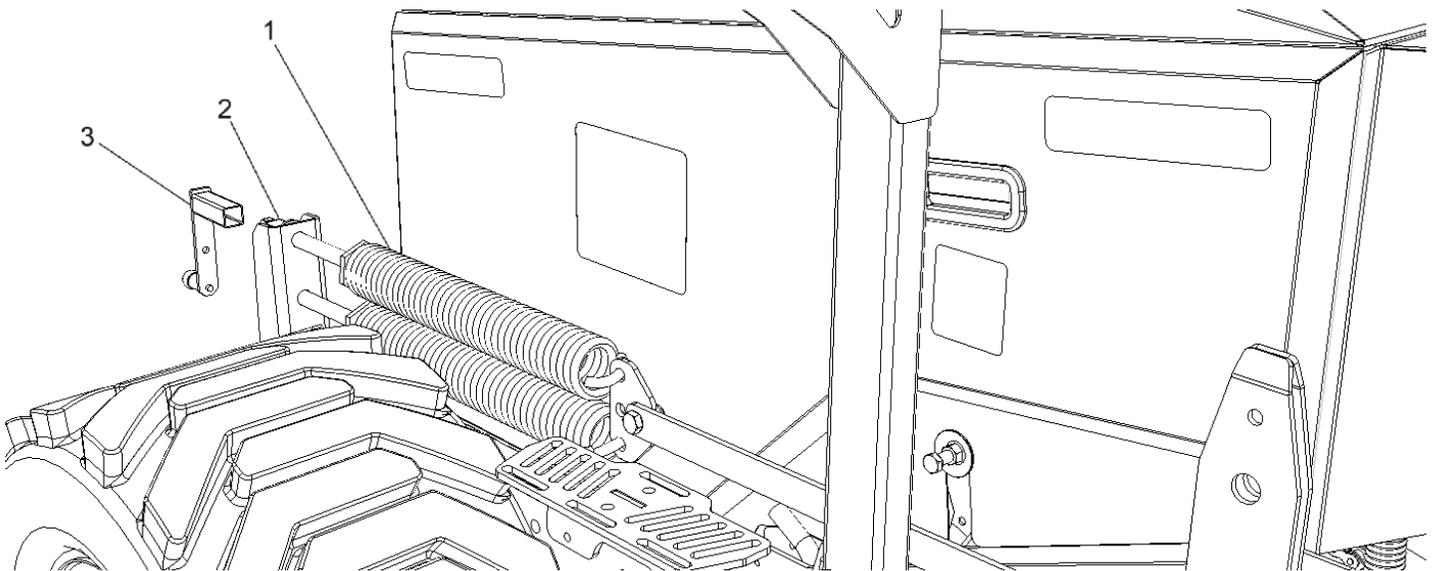

Figure 54 Header lift springs
### STEP 1 - FIGURE 54
The suspension springs (item 1, Figure 54 Header lift springs) function is to control the header ground pressure. In general, the tension must be set to result in a weight of about 35 kg (75 lb) at the front of the header. The spring adjustment varies from one header to another.
### STEP 3 - FIGURE 54